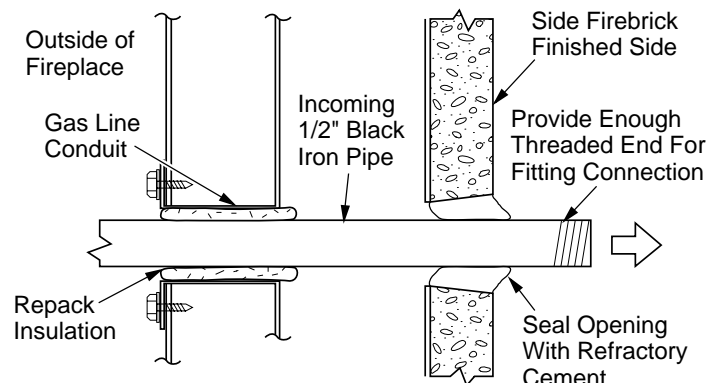

Figure 15 - Running Gas Line
- Run gas line into the fireplace through the rear at 11 1/4" from the floor and through gas line conduit sleeve (if using a raised platform, add height). Provide sufficient gas line into fireplace chamber for fitting connection (see Figure 15).